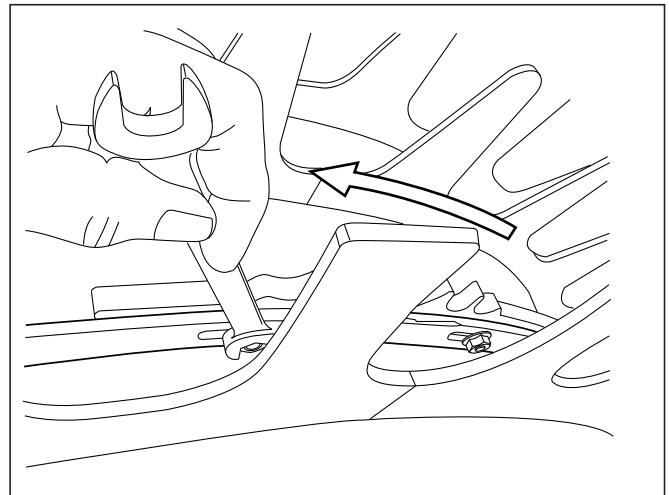

Figure 36 Move the teeth sections
4. Using a 1/2" wrench, loosen the free teeth section (figure 36).